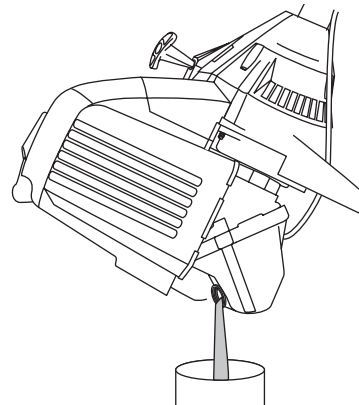

Figure 28
3. Pour the oil out of the oil fill hole and into a container by tipping the unit to a vertical position. See Figure 28. Allow ample time for complete drainage.